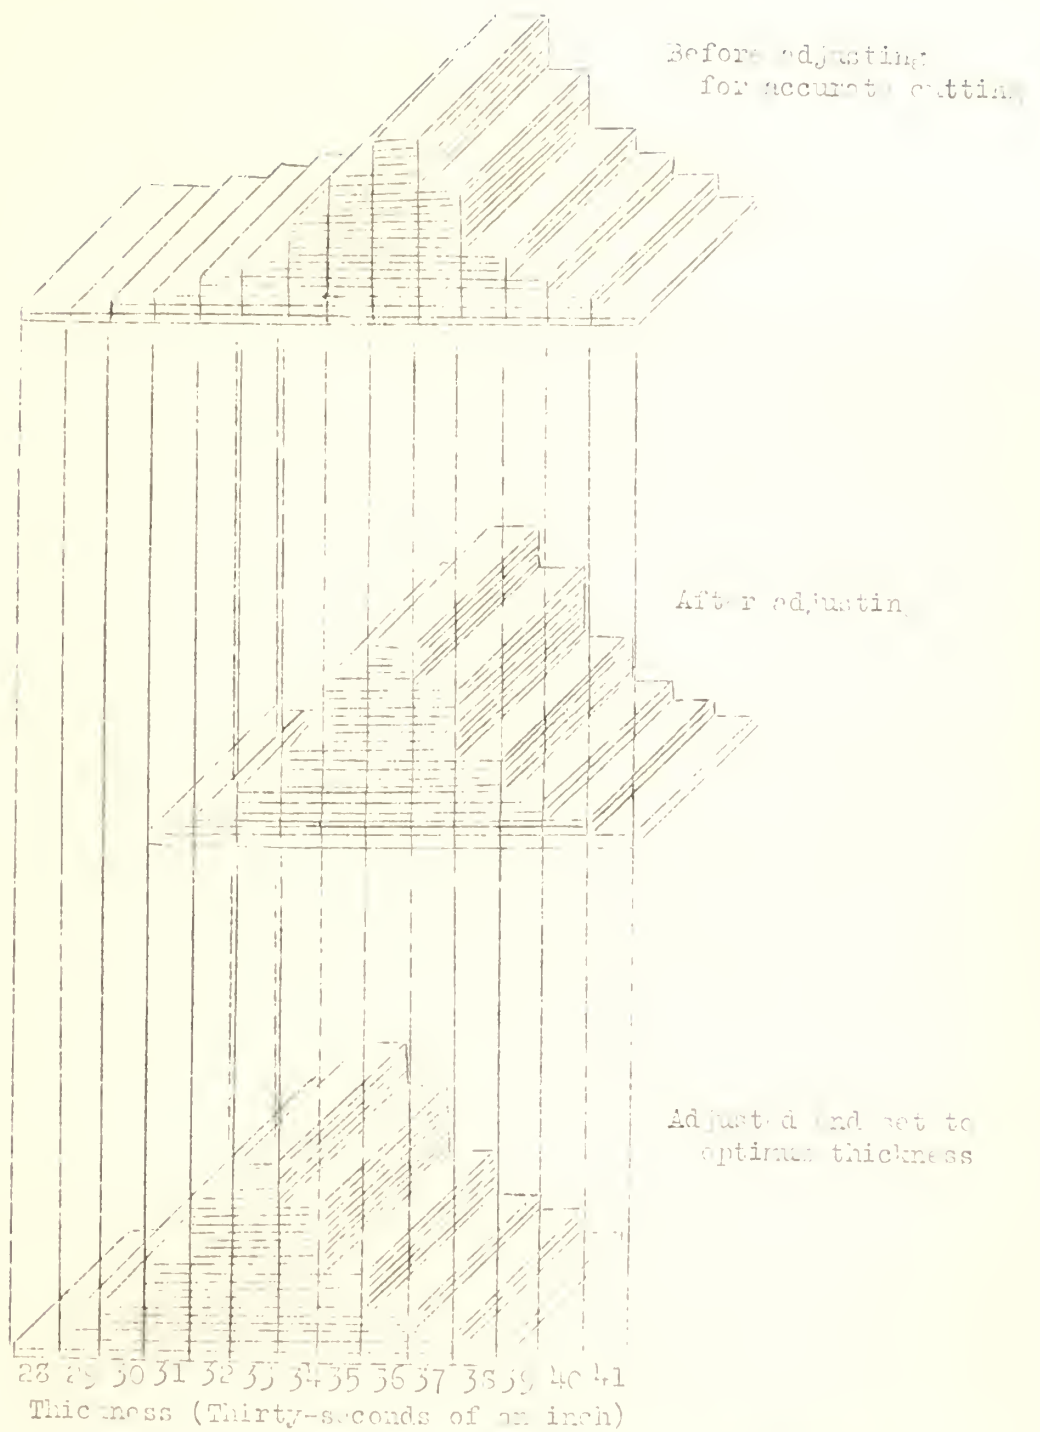

Figure 1.--Example of variation in thickness of each 1/2 second of inch
Studies* by the Forest Products Laboratory indicate that the portable-mill operator, in sawing for thickness, cuts only about 20 percent of the boards within $1/32$ inch of the thickness he sets for. The remaining 80 percent may vary in thickness from as much as $8/32$ inch on the thin side to as much as $5/32$ inch on the thick side. (Fig. 1, upper pile.) Consequently the operator must set to cut most boards too thick so that there will not be too many that are excessively thin. Each $1/32$ inch thus added to avoid thin boards reduces the possible cut exactly as if the saw kerf were increased $1/32$ inch. This waste can be minimized by keeping the equipment in good condition.
By adjusting the saw, carriage, and track for the most accurate work possible, sales advantage due to more accurately cut lumber is obtained. To get the second advantage, an increased yield, set to cut boards thinner. Note that two steps are essential: (1) setting to improve cutting accuracy and (2) setting for thinner lumber. The number of thin rejects will not be increased because the effect of tuning up equipment is to bunch boards closer to the intended $1/32$ -inch group and thus to decrease the number of extremely thick and thin boards. (Fig. 1, effect of improved cutting accuracy shows in middle pile. If $28/32$ inch is taken as the thinnest rough dry thickness that will produce the softwood standard, the set-works can be moved either by $1/32$ -inch intervals or, where the intervals are $1/16$ inch, by placing a $1/16$ -inch leaf in the back stop so that the entire cut is $3/32$ inch thinner. Lower pile. The consequent increase in yield is $4-1/2$ percent.)
An allowance of 1/32 inch must be made for shrinkage of inch softwood lumber from a green to the equivalent of a thoroughly air-dry condition. Moreover, most softwood grading rules admit 20 percent 23/32-inch rough dry lumber; hence, the 25/32-inch green lumber group is the thinnest to qualify. A mill cutting lumber as in the upper pile in Figure 1 should therefore set 1/32 inch thinner, since the 1-1/2 percent increased yield is but partly offset by the 1 percent increase in rejects. For a mill grouping its cut as in the lower pile in Figure 1, a 1/32 inch thinner set, although gaining the 1-1/2 percent increased yield, results in an increase of 3 percent in rejects.
The set-up for hardwood differs in that 2/32 inch must be allowed for shrinkage (3/32 for beech and hickory) and the grading rule base is 32/32 inch for rough dry lumber so that 34/32 inch is the thinnest green board to qualify. A mill grouping its cut as in the upper pile in Figure 1 for hardwoods should set four places thicker, so that the 2 percent shown in the 30/32-inch group would be in the 34/32-inch group.